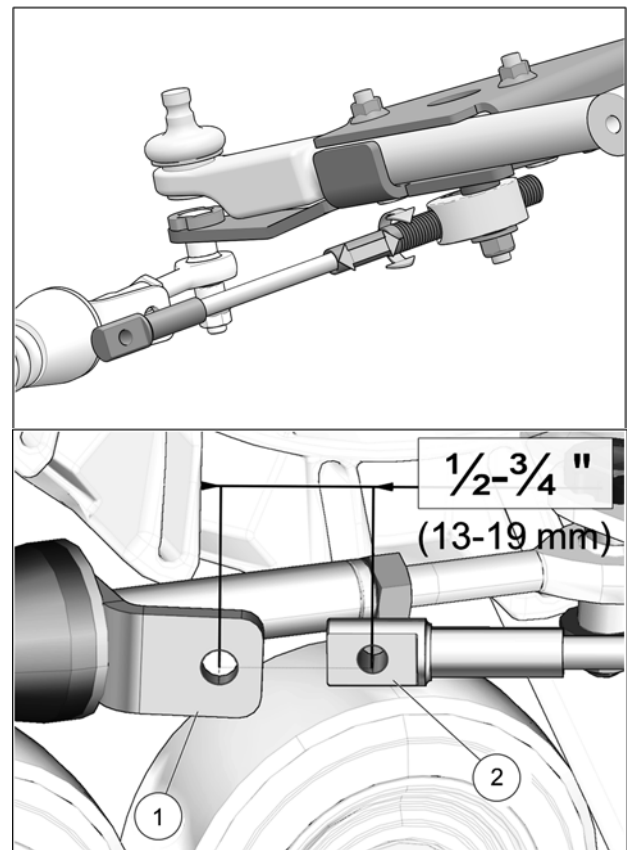

Fig. 20
13. Turn the vehicle's steering wheel to its maximum point of travel on the left. While maintaining pressure on the steering wheel, turn threaded rod to adjust length of cable so that the cable end hole (1) is located 13 to 19 mm [$\frac{1}{2}$ to $\frac{3}{4}$ in.] short of the mounting hole on the support plate (2). See Fig. 20